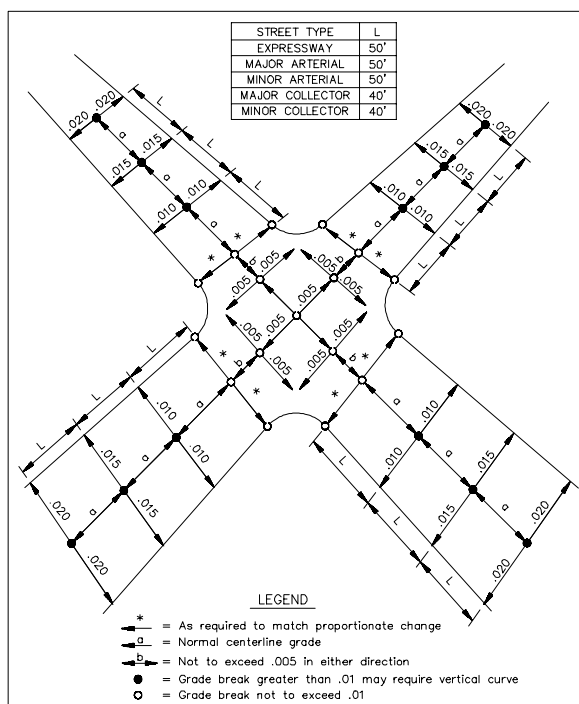

FIGURE 9.1-6. INTERSECTION CROSS-SLOPES & CROWN RUN-OFF
1. City major streets are typically centered along section lines, from section corner to section corner. Bearings need not be shown on plans; but deflection angles at alignment changes and all angles of intersecting streets must be shown. All section corners, tangent points, Point of Intersection (PI) of curvilinear sections, beginning and ending taper points and monument lines of all intersecting streets shall be labeled and stationed. Survey markers shall be installed per MAG Standard Details.
5. Design on intersecting streets will be done in accordance with the city furnished geometrics and guides (see Section 5-3). Care must be taken to ensure a smooth grade in all directions through intersections. Special design work sheets are required to show profiles on the intersecting street to ensure smooth grades in both directions. These work sheets are to be included with the grade and alignment submittals (see Figure 9.1-6 below).